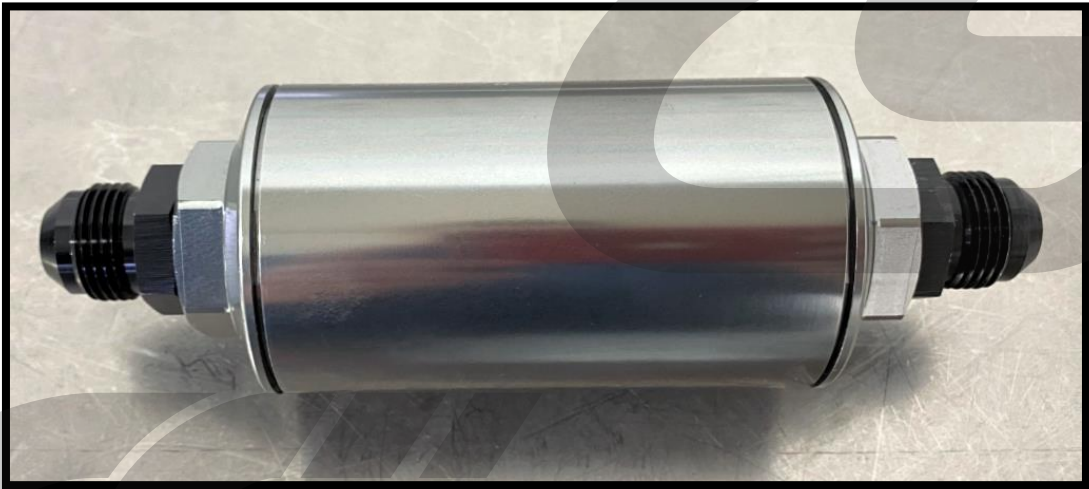

Figure 9g
- j) Repeat Steps 9a-9g for the "DWFF110" Filter with one exception: **remove the mounting brackets from the filter before tightening the end caps.** The mounting brackets are not used with this filter. Shown completed in **Figure 9g**.
- l) Install one fitting into each end of the "DWFF110" fuel filter as shown in **Figure 9g**. Tighten each fitting until snug using an 1" or adjustable wrench.